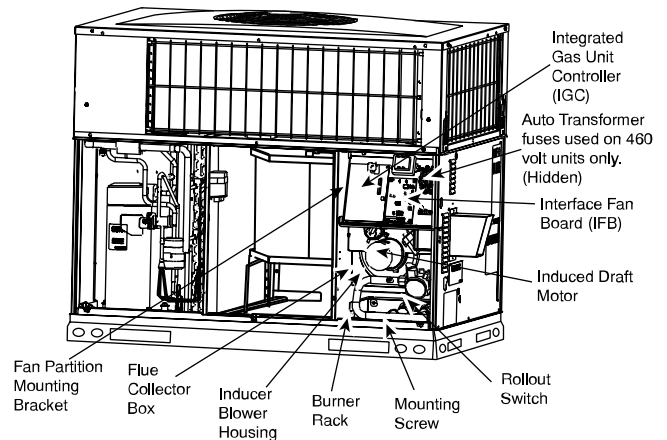
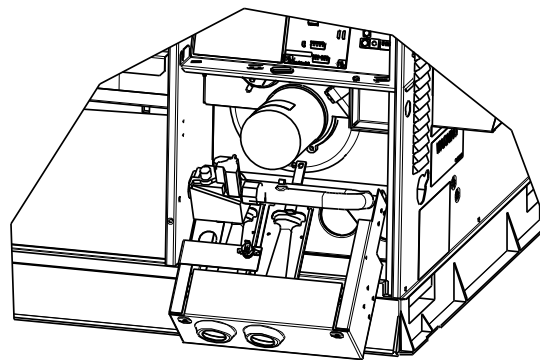

Fig. 40 – Blower Housing and Flue Collector Box
Fig. 43 – Burner Rack Removed (Standard and Standard Low NOx Models Only)
3. Slide the assembly out of the unit. (See Fig. 43). Clean the blower wheel. If additional cleaning is required, continue with Steps 4 and 5.
2. Remove the 11 screws holding the flue collector box cover (See Fig. 40) to the heat exchanger assembly. Inspect the heat exchangers.
Unit is equipped with a direct spark ignition 100 percent lockout system. Ignition module (IGC) is located in the control box (See Fig. 40). Module contains a self-diagnostic LED. During servicing, refer to label diagram or Table 22 in these instructions for LED interpretation.
5. Remove fan partition mounting bracket (2 screws located on the left side of control compartment on the fan partition panel). Slide bracket forward, bottom first, to remove. (See Fig. 40.)
7. Remove the mounting screw that attaches the burner rack to the unit base (See Fig. 40).
8. Partially slide the burner rack out of the unit (see Fig. 40 and Fig. 43). Remove ignitor and sensor wires at the burner assembly. Remove wires to rollout switch.
9. Slide the burner rack out of the unit (See Fig. 40 and Fig. 43).